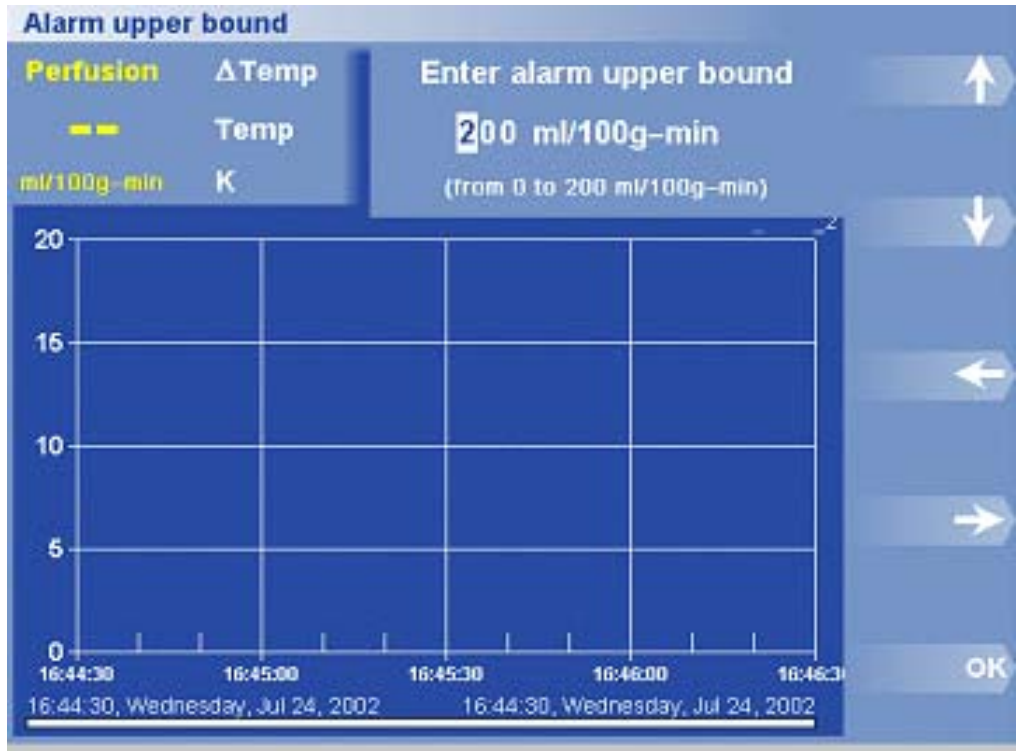

Figure 26. Alarm Upper Bound Dialog Box and Menu
3. Press Value. The Upper Bound dialog box appears (Figure 26). Use the arrow buttons to set the upper bound of the alarm.